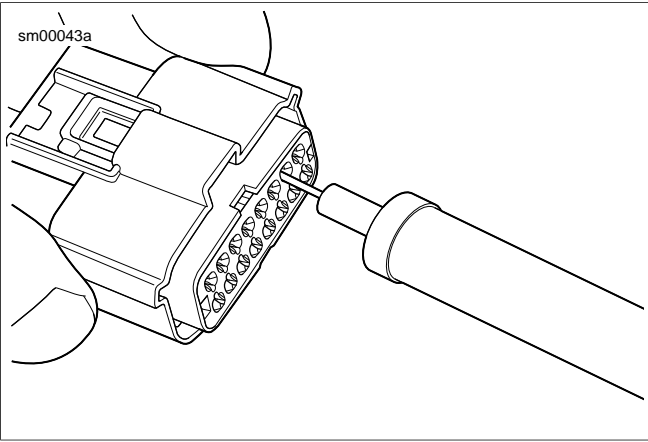

Figure A-49. Molex MX 150 Sealed Connector: Terminal Remover (HD-48114)
2. See Figure A-49. Insert TERMINAL REMOVER (Part No. HD-48114) into the pin hole next to the terminal until the tool bottoms.